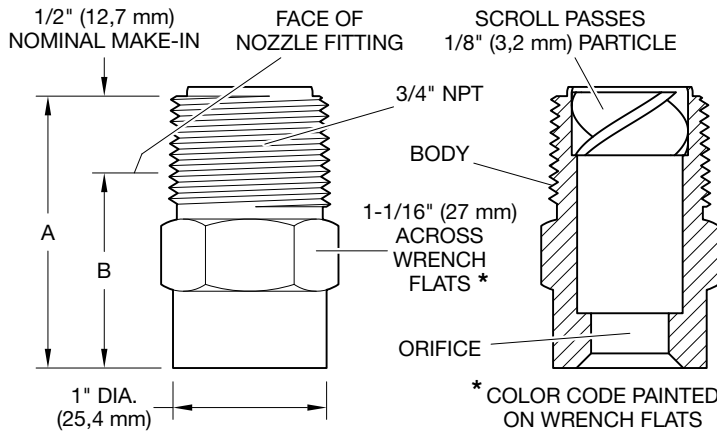
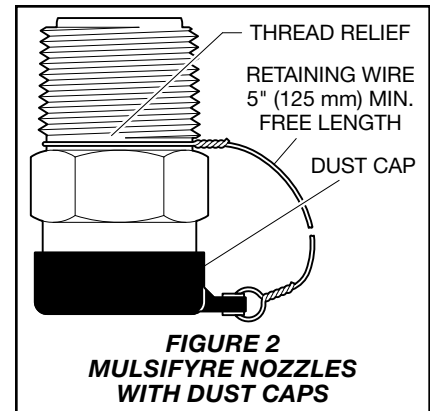

FIGURE 1
FIGURE 2
The MULSIFYRE Nozzles are open (nonautomatic) nozzles and they are designed for use in water spray fixed systems for fire protection applications where a high velocity water application may be required. There are two configurations: the basic MULSIFYRE Nozzle shown in Figure 1 and the MULSIFYRE Nozzle with Model F880 Dust Cap shown in Figure 2. Each configuration is available in six different models that provide a wide range of orifice sizes and water distribution characteristics.
See Figure 1
Step 2. Tighten the nozzle into the nozzle fitting using an adjustable crescent wrench. With reference to Figure 1 apply the adjustable crescent wrench to the nozzle wrench flats.
When replacement dust caps are installed, there is to be a minimum of 5 in. (125 mm) of wire, see Figure 2, between the wire loop point at the nozzle thread relief and attached to the dust cap. The minimum length of 5 in. (125 mm) will help to assure that there will be an unrestricted flow from the nozzle outlet during operation.